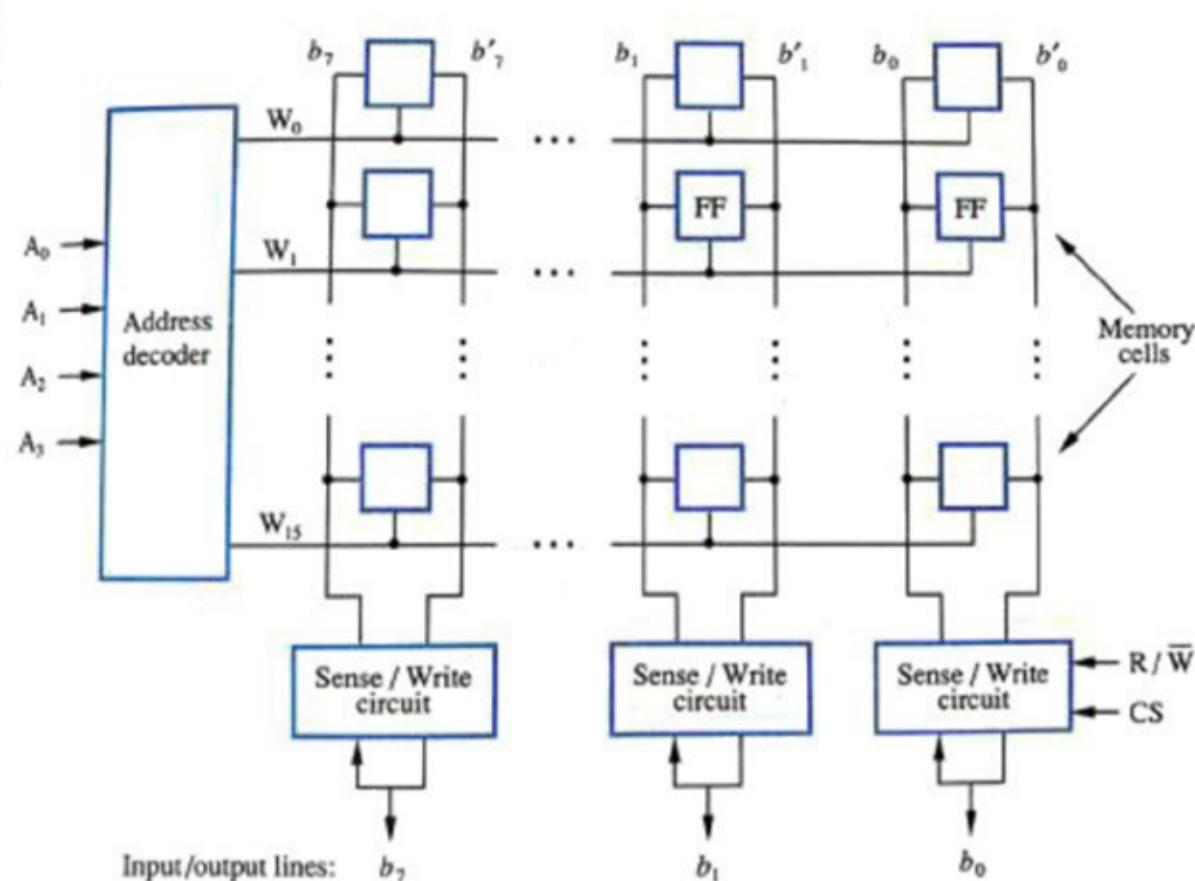

FIGURE 5.3
- The memory circuit in Figure 5.3 stores 128 bits and requires **14 external connections** for **address (4)**, **data (8)**, and **control lines (2)**. It also needs two lines for power supply and ground connections.
- Consider now a slightly larger memory circuit, one that has 1K (1024) memory cells. This circuit can be organized as a **128 × 8 memory**, requiring a total of **19** external connections, address (7), data (8), control lines (2) and power supply ground (2).